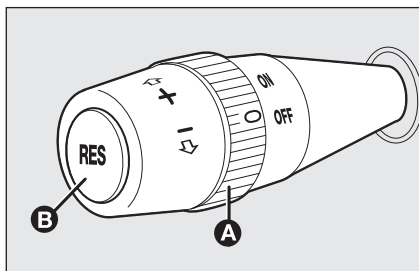

fig. 73
Turn the ring **A-fig. 73** to **ON**.
- turn ring **A-fig. 73** to **ON** and press the accelerator pedal to the required speed;
Turn ring **A-fig. 73** to **OFF** or the ignition key to **STOP**. The device is automatically turned off in one of the following cases: